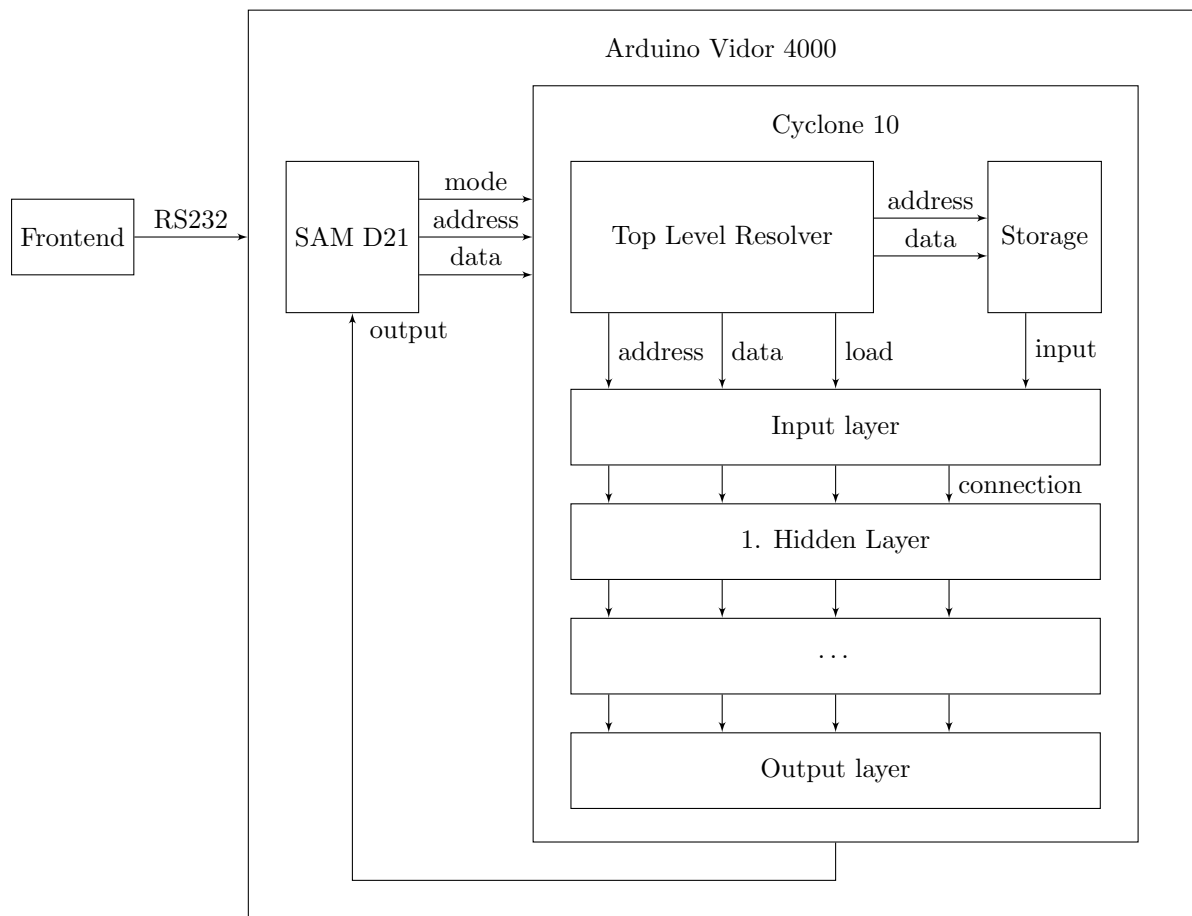

Figure 2.1: Top Level Hardware Model
The hardware of this project consist of a 32-bit microcontroller named SAM D21/DA1 and a Cyclone 10 FPGA. Both chips are placed on a board, so called Arduino Vidor 4000. This board comes with an USB interface, which will be the communication between frontend (PC) and the executing hardware. The figure 2.1 show the most abstract hardware model. This model show the mentioned frontend and hardware, but also the "Top Level Resolver", which distribute the data to either the storage, which holds the data to be proceed, or the new settings for the single perceptron activation functions. In the concret model, the address line has a size of 8-Bit and the data line a size of 4-Bit. This results in a maximum count of 256 perceptrons in 16 layers, if one perceptron of the incomming layer is connected with all perceptrons of the previous outgoing layer.